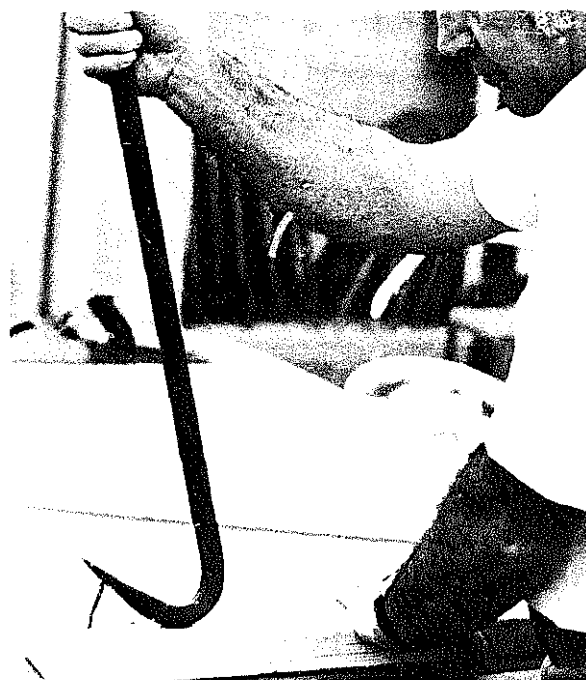

Fig. 11-36 Removing a nail with a pinchbar.
1. To withdraw spikes, use a gooseneck pinchbar, figure 11-36. If the spike head is below the surface, set the claw of the bar against the spike head. Drive the claw under the spike head by striking the bar with a hammer at A, figure 11-36. Then withdraw the spike by pulling on the bar handle as shown by the arrow.